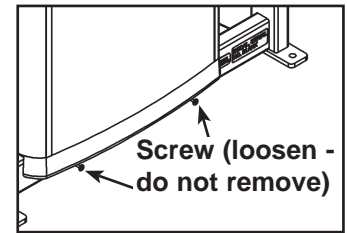

Figure 6
- F. Loosen bottom two screws shown in Figure 6. **NOTE:** Do not remove the bottom two screws.